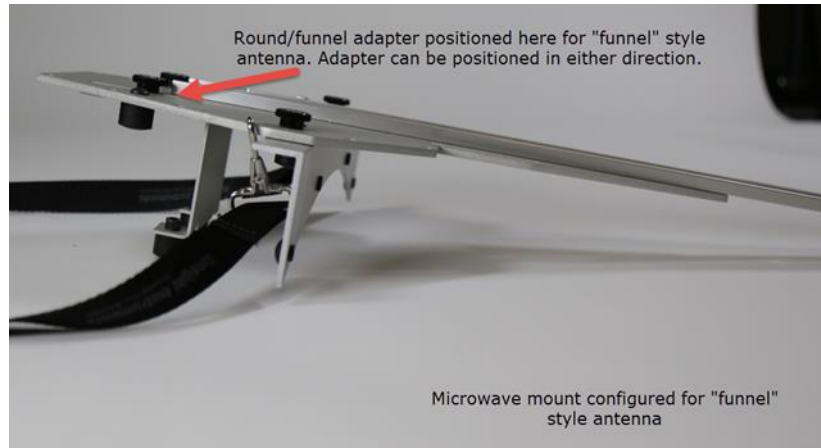

Figure 9
- 1) For convex back and unshielded parabolic antennas, configure the mount, including the front/rear support bracket as shown in Figure 9